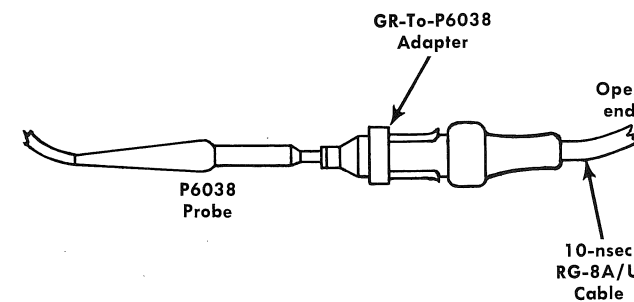

Fig. 5-2. P6038 Probe tip in 50-ohm system.
a. Connect the Channel A P6038 Probe into the 50-ohm system shown in Fig. 5-2.
- c. Adjust the VERT POSITION controls to center both channel traces, first with the MODE switch at A ONLY; then with the Channel B P6038 Probe connected in the 50-ohm system shown in Fig. 5-2, center both traces with the MODE switch at B ONLY.
- a. Connect the Channel A P6038 Probe to the 50-ohm system shown in Fig. 5-2. Set the MODE switch to A ONLY, and the MILLIVOLTS/CM switch to 100.
- a. Place the P6038 Probe in the 50-ohm system shown in Fig. 5-2.